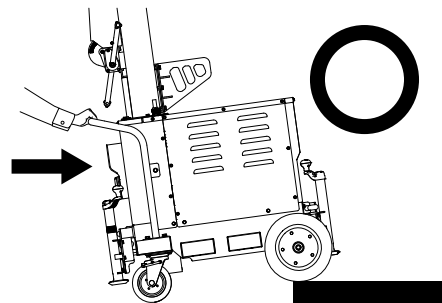

Figure 15. Moving Cart Up a Step
1. To safely climb up a step with the light tower, make sure that the tire side is in the front and caster side is in the rear (Figure 15). Carefully push the cart forward.